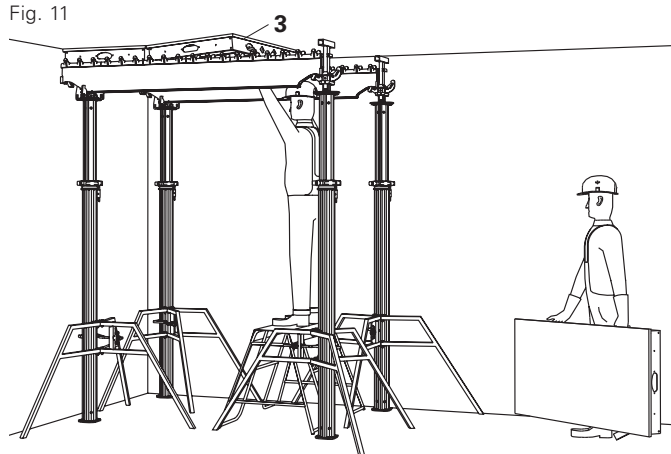

Fig. 11
2. Insert panel (3). In so doing, the rack of the main beam fixes the panel in position. (Fig. 11)